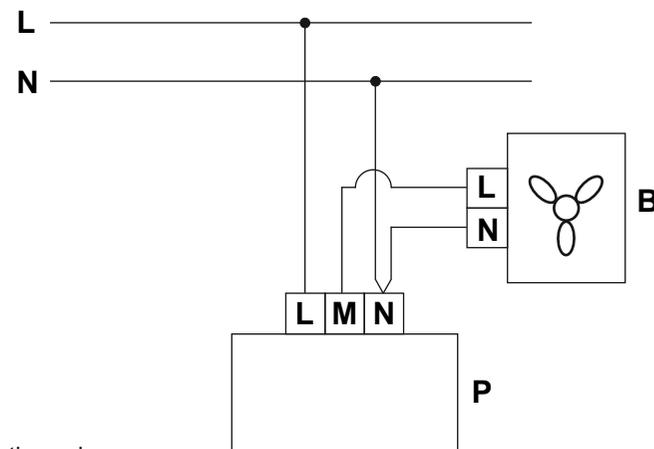

Fig. 3 Controller connection scheme
- to dismount controller knob (1);
- to unscrew the mount nut (2) of upper cover and remove the upper cover (3);
- to unscrew the mount screws (4) connecting controller to mounting box, and to dismount controller (5);
- to install connectors to mounting box (6);
- to connect wires to terminal block located on controller board according to connection scheme (Fig. 3) and label on terminal block;